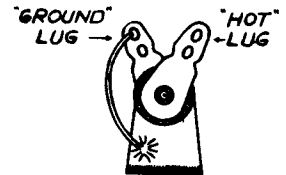

Fig. 10
- Q1 (✓) Connect a short length of bare wire to the pilot light ground lug (S) and fasten the other end of the wire to the pilot light mounting frame (S). See Figure 10.
- Q2 (✓) Run a wire from N1F (S) to Q3.5R (S). *ok*
- Q3 (✓) Run a wire from N3F (S) to Q9.5F (S). *ok*
- Q4 (✓) Run a wire from N5F (S) to the red banana jack M insert lug (S). *ok*
- Q5 (✓) Run a wire from N7R (NS) to R3 (S). *ok*
- Q6 (✓) Run a wire from N9R (S) to T3 (S). *ok*
- Q7 (✓) Run a wire from N10F (S) to Q9R (NS). *ok*
- Q8 (✓) Run a short piece of stiff bare wire from N11F (S) to L1 (S). *ok*
- Q9 (✓) Run a wire from R1 (NS) to T2 (S). *ok*
- Q10 (✓) Run a short piece of stiff bare wire from (use spaghetti if necessary) L2 (NS) to the black banana jack K insert lug (S). *ok*
- Q11 (✓) Connect a 4" wire length to Q3F (NS) and leave the other end free. *ok*